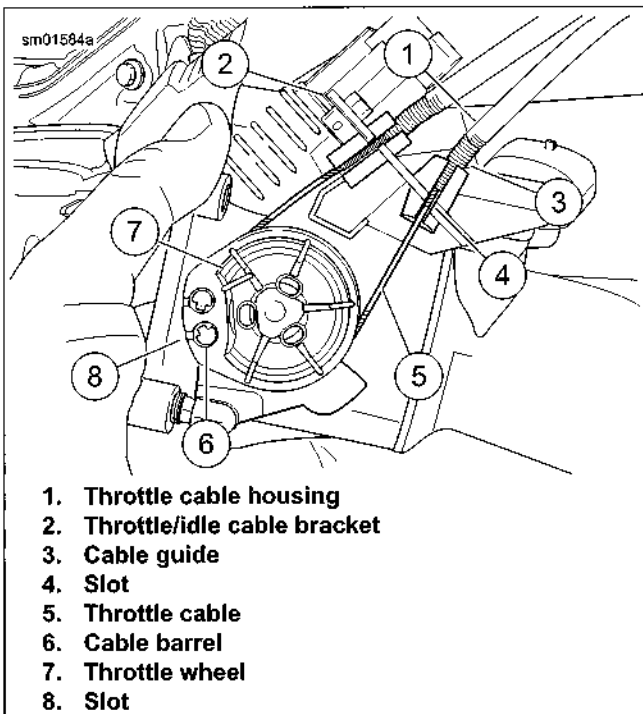
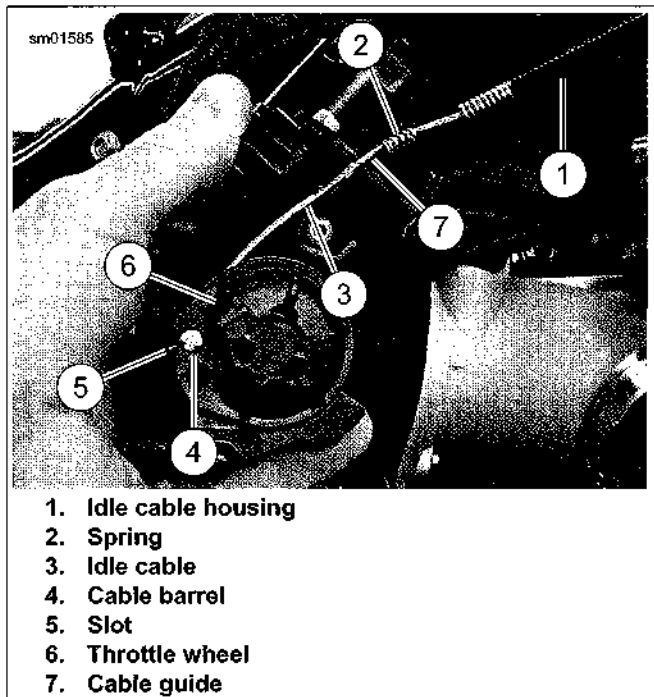

Figure 4-20. Removing/Installing Throttle Cable
Figure 4-21. Removing/Installing Idle Cable
16. See Figure 4-21. In a similar fashion, remove idle cable (3) from throttle wheel (6):
- a. Lift idle cable housing (1) and spring (2) up out of cable guide (7) in throttle/idle cable bracket.
- b. Slide idle cable (3) out through slot in cable guide.
- c. Unwind idle cable from groove in throttle wheel (6).
- d. Slide cable out through slot (5) and remove idle cable barrel (4) from throttle wheel.
10. See Figure 4-21. Install idle cable barrel (4) into throttle wheel (6). Slide idle cable (3) through slot (5) and wind around groove in throttle wheel.
11. Pull cable through slot in cable guide (7). Slide spring (2) and end of idle cable housing (1) down into cable guide.
12. See Figure 4-20. Install throttle cable barrel (6) into throttle wheel (7). Slide throttle cable through slot (8) and wind around groove in throttle wheel.
13. Pull cable through slot (4) in cable guide (3). Slide end of throttle cable housing (1) down into cable guide.